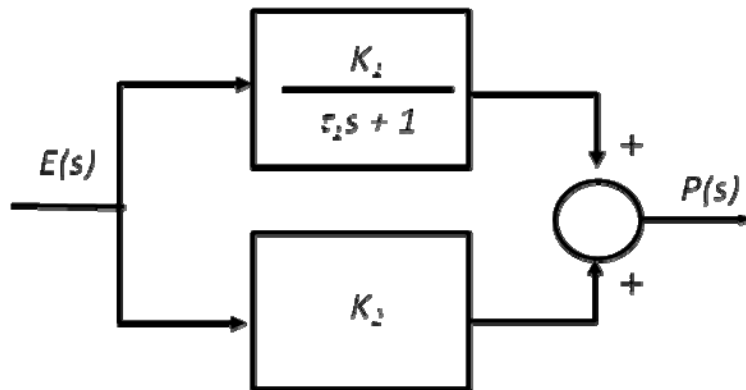

Figure 6: Block diagram for a PD controller
- [b] Figure 6 shows the block diagram of a proportional-derivative (PD) controller.